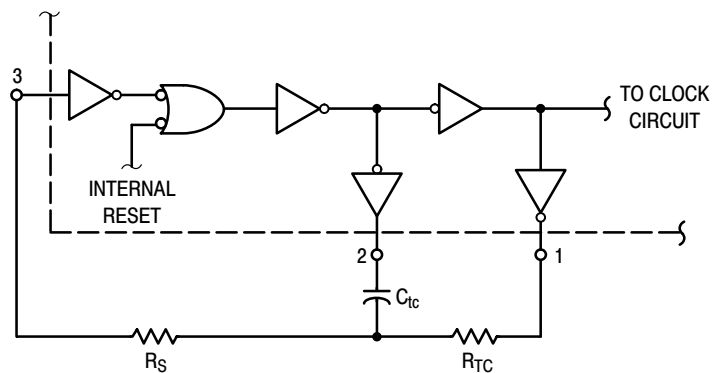

Figure 3. Oscillator Circuit Using RC Configuration
4. When using the on chip oscillator the total supply current (in μAdc) becomes: I_T = I_D + 2 C_{tc} V_{DD} f × 10^{–3} where I_D is in μA, C_{tc} is in pF, V_{DD} in Volts DC, and f in kHz. (see Fig. 3) Dissipation during power-on with automatic reset enabled is typically 50 μA @ V_{DD} = 10 Vdc.
The RC oscillator as shown in Figure 3 will oscillate with a frequency determined by the external RC network i.e.,